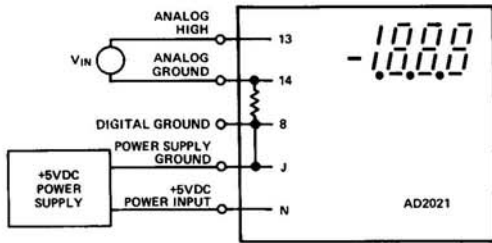

Figure 1. AD2021 Wiring Interconnections
**WIRING CONNECTIONS.** Figure 1 is a wiring diagram for AD2021 applications. The "limited differential" input uses a 47 $\Omega$  resistor to isolate the analog input from digital and power supply sections to prevent ground loop problems. The analog ground must be connected to Pin 14 only, since there may be up to  $\pm 200\text{mV}$  difference in voltage between this input and the digital ground.